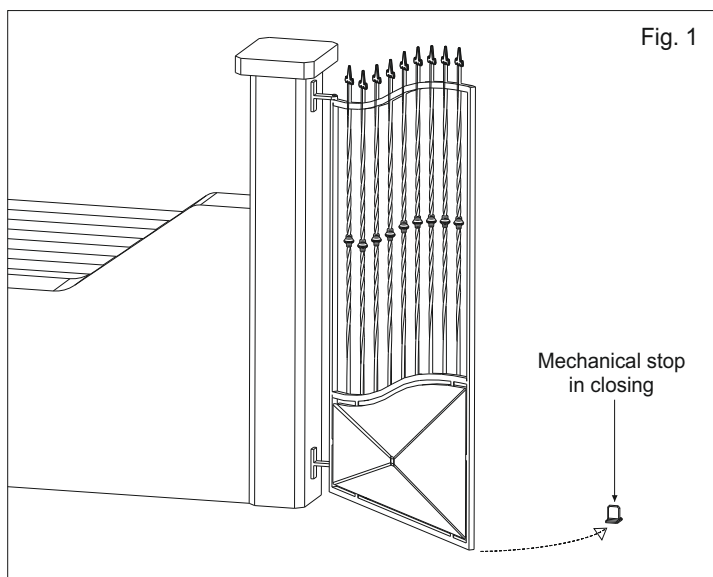

Fig. 1
- E.** in case of leaf length superior of 1,8 m and 150 kg of weight, it is recommended to fix to the ground a mechanical stop in closing (Fig. 1).